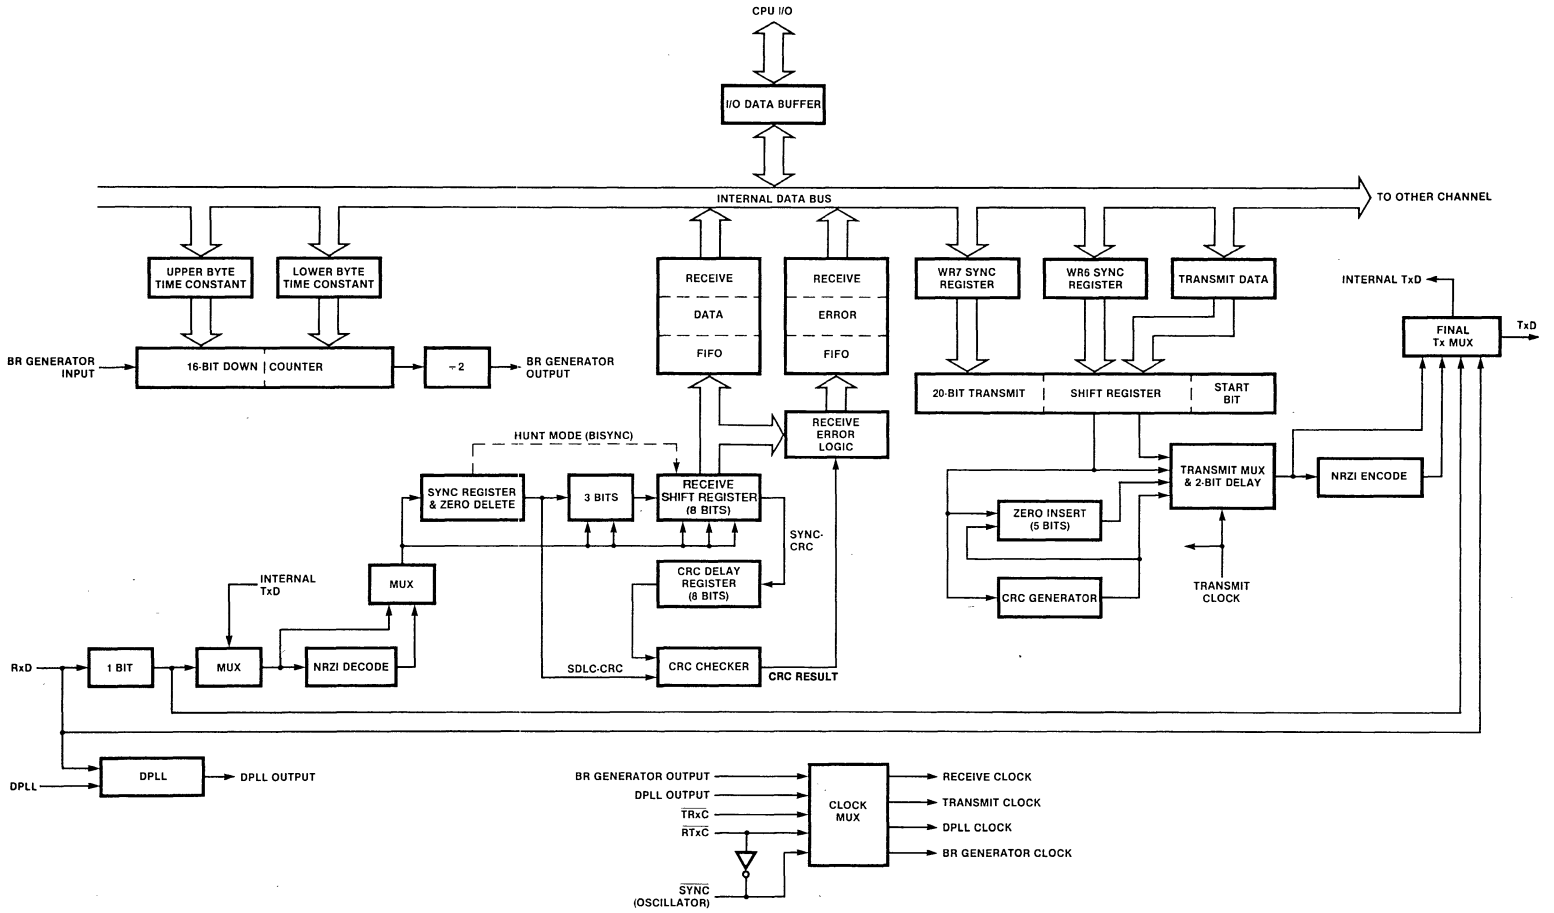

Figure 9. Data Path
**Data Path.** The transmit and receive data path illustrated in Figure 9 is identical for both channels. The receiver has three 8-bit buffer registers in an FIFO arrangement, in addition to the 8-bit receive shift register. This scheme creates additional time for the CPU to service an interrupt at the beginning of a block of high speed data. Incoming data is routed through one of several paths (data or CRC) depending on the selected mode (the character length in Asynchronous modes also determines the data path).